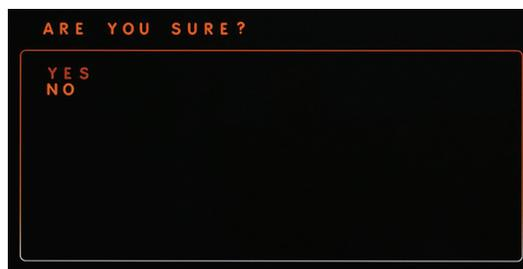

Figure 31. Select Reset Factory Defaults
- To reset the System to the original factory default settings, select **RESET FACTORY DEFAULTS**. A confirmation screen containing the question **ARE YOU SURE?** will open (Figure 31). **YES** will blink